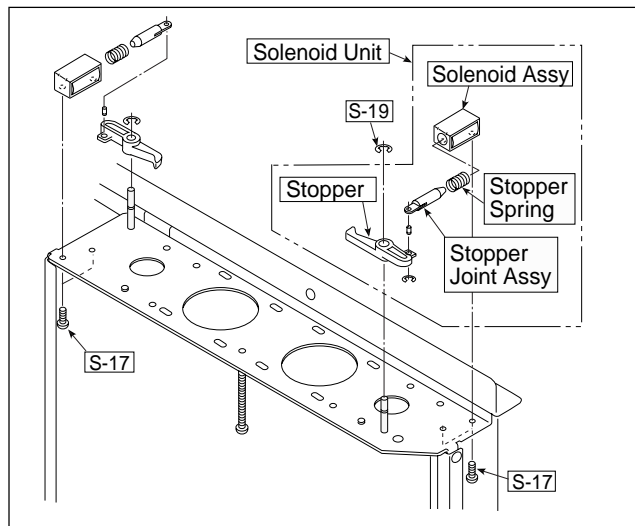

Fig. 14
10) Remove the Solenoid Assy. (See Fig. 14.)
1. Remove the "S-17" screws shown in Fig. 14 and then remove the Solenoid Assy.
2. Remove the "S-19" E-rings shown in Fig. 14 and then remove the Stopper.